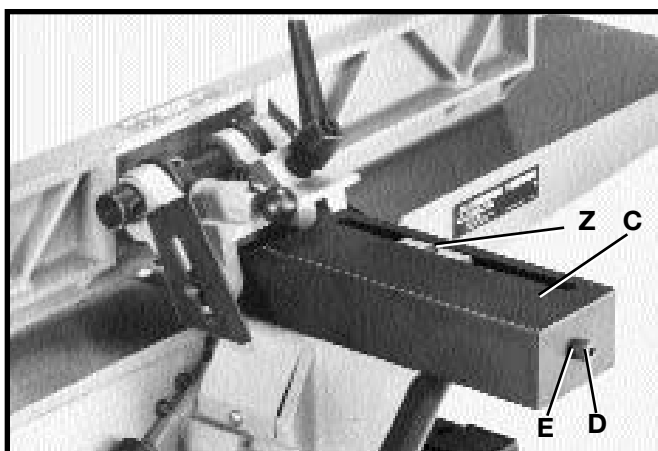
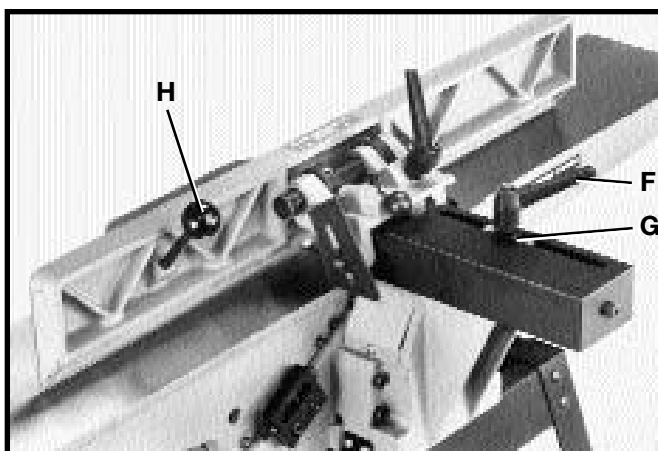

Fig. 21
Fig. 22
2. Assemble rear cutterhead guard (C) Fig. 21, to end of hexagon rod using the 5/8" long screw (D) and washer (E).
3. Thread fence locking handle assembly (F) Fig. 22, and flat washer (G) into hole (Z) Fig. 21. Lock handle (F) Fig. 22, is spring-loaded and can be repositioned by pulling out the handle and repositioning it onto the serrated nut located under the handle.
4. Thread fence tilting handle (H) Fig. 22, to threaded hole in back of fence as shown.